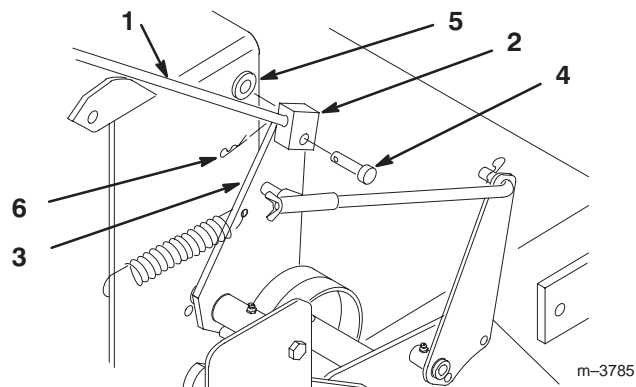

**Figure 4**
3. Insert terminals into plastic plug until the clips snap into position (Fig. 4). If they do not snap turn around.
4. Push plug onto switch so latches interlock (Fig. 4).